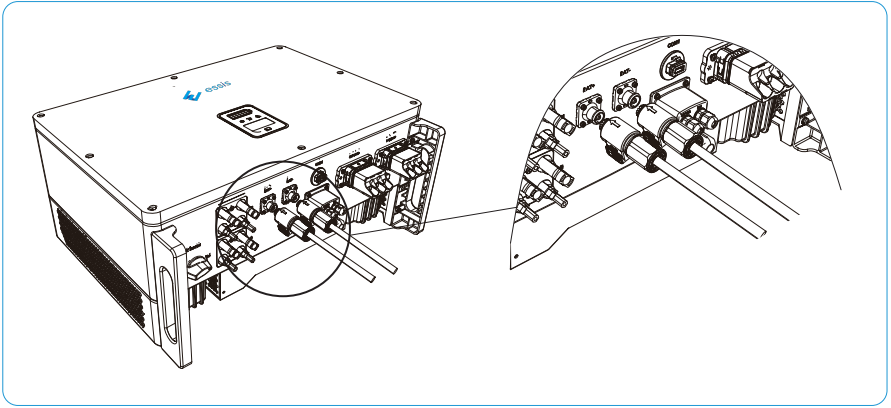

Figure 4-20
5) Insert the positive and negative connector into the inverter battery terminals respectively. The arrow on connector should point to arrow on the inverter battery terminal. A "click" sound represents the assembly in place, as shown in Figure 4-20: